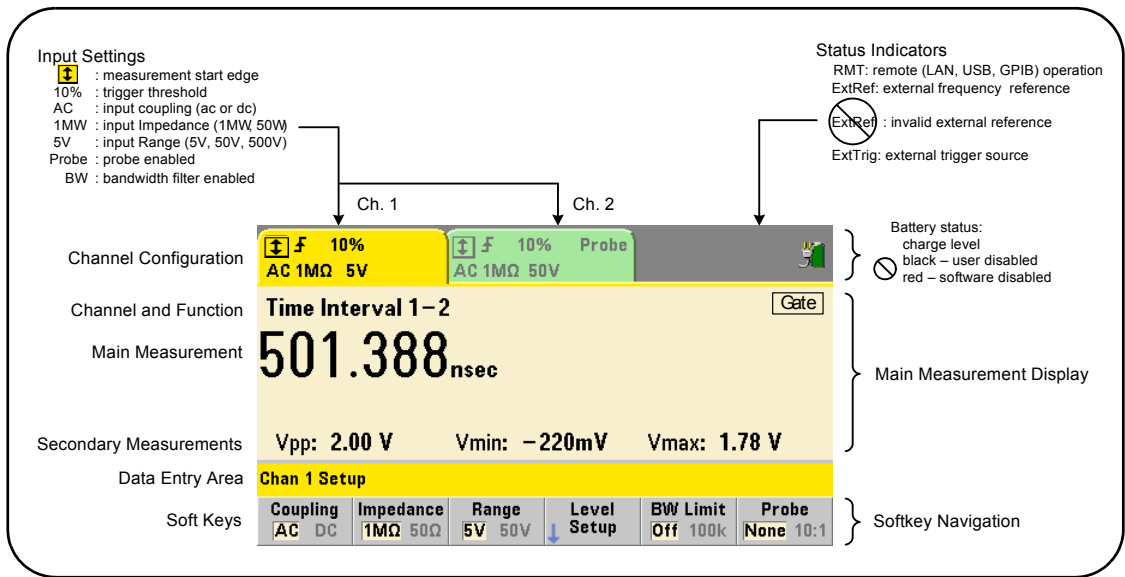

Figure 1-2. The 53220A/53230A Display.
The layout of the 53220A/53230A display is shown in Figure 1-2.
**Battery in Use** The presence and status (enabled or disabled) of the battery is indicated by a battery icon in the upper-right corner of the display (Figure 1-2). Remotely, the instrument can be queried as to whether it is currently using AC power or battery power with the command: